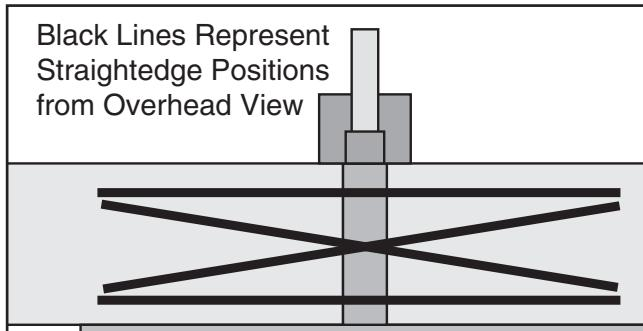

Figure 53. Straightedge positions for checking infeed/outfeed table parallelism.
- Place straightedge in one of the positions shown in **Figure 53**, and adjust eccentric bushings under infeed table so straightedge lies flat against both tables.